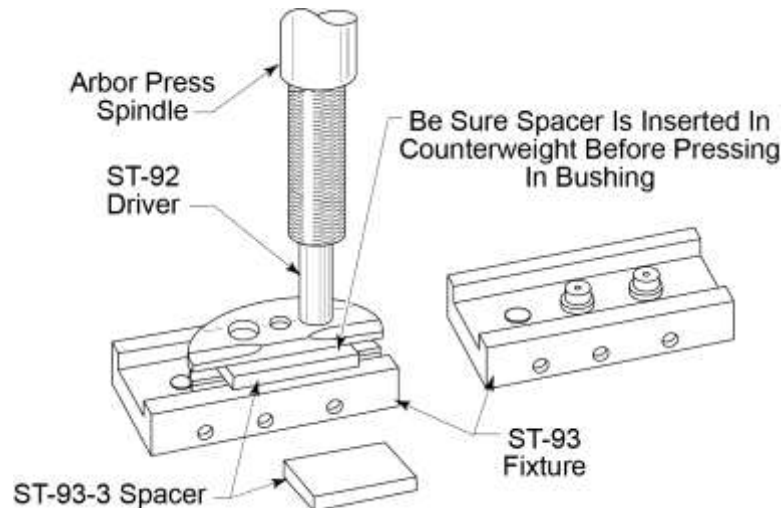

Figure 23
- (b) Install the applicable Depth Control Spacer ST-93-3 or ST-93-5 (Figure 23) in the counterweight bushing bore.
- (c) Use the Arbor Press Spindle and Counterweight Bushing Driver ST-92 to press both bushings out from one side of the counterweight. Refer to Figure 23.